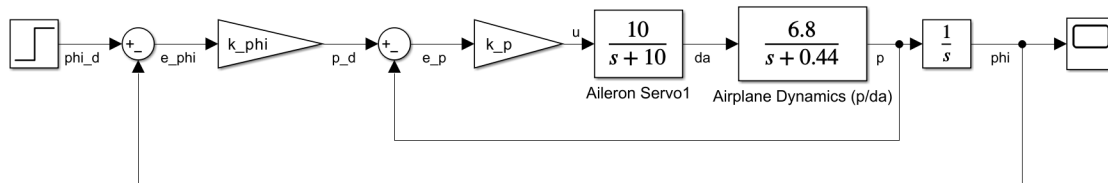

Figure 5: Block diagram for Bank Angle Hold Mode with Inner Loop Roll Rate Feedback
- (c) Based on the root locus analysis from part a, it is evident that we cannot simultaneously reduce the overshoot (by increasing the damping ratio) and enhance the speed of response (by increasing the frequency) through solely adjusting the proportional gain in a single angle control loop. To increase the system's damping ratio and enhance the closed-loop system response, we could include an inner loop (rate damper) and form a cascade control system as illustrated in Figure 5.